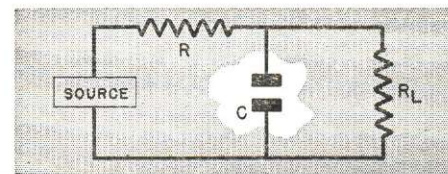

FIG. 35. Another important condenser circuit. Here, the condenser acts with resistor R to keep the higher frequencies from affecting the load R_L .
want low-frequency a.c. and no high frequencies. We can add a condenser in parallel with the load, as in Fig. 35, and will again have a frequency-separating circuit—one of the most useful in radio.
Notice—this action is exactly opposite to that of the circuit in Fig. 32. The circuit in Fig. 32 permitted only higher frequencies to pass, while that in Fig. 35 permits only lower frequencies to pass. Hence, Fig. 35 is acting much like the coil circuit of Fig. 31.
► Notice how the parts *work together* to give the desired actions. Without the series R in Fig. 35, an entirely different action would occur. The condenser would then act just as it does alone and would serve only as an *additional load* on the source. It would
By-pass Action. The condenser connection shown in Fig. 35 is very frequently called a “by-pass” because it “by-passes” high-frequency currents so they do not flow through the resistor R_L . This action is also called “filtering,” because the effect is one of “filtering out” certain frequencies. Which name we use depends upon the exact action required in the circuit, as you will learn later. Usually, the term “by-passing” is used whenever we want to provide an easy path for a.c. and at the same time keep this a.c. out of another circuit.